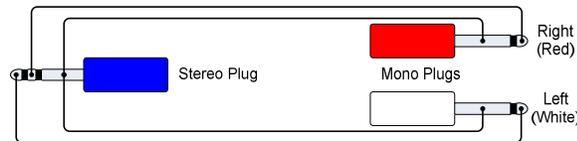

Figure 14 ~ Stereo to Mono adapter cable diagram.
Figure 14 ~ Argo shows a stable output frequency (white horizontal line) of approximately 989.5 Hz over the 13 minute recording. These measurements were made while running on an external 12 Vdc regulated power adapter.
5. Use a shielded audio cable with stereo or mono plugs as required by the soundcard configuration to be setup. A stereo plug has tip, ring and sleeve contacts and mono has only tip and sleeve contacts. In some cases it may be necessary to adapt two individual mono circuits to stereo (figure 14). For the 3.5 mm stereo plug, the left channel is the tip and right channel is the ring lead.